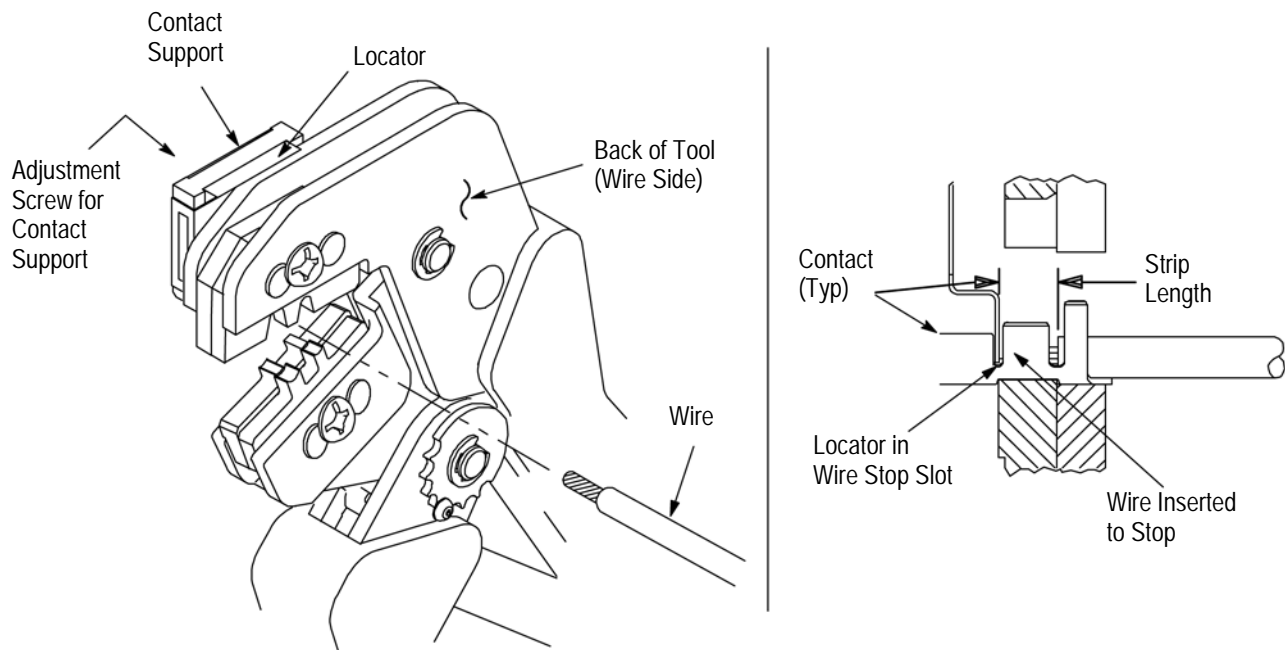

Figure 3
4. CONTACT SUPPORT ADJUSTMENT (Figure 3)
Refer to the table in Figure 1 and select wire of the specified size and insulation diameter. Strip the wire to the length indicated in Figure 1, taking care not to nick or cut wire strands. Select an applicable contact and identify the appropriate crimp section according to the wire size markings on the tool. Refer to Figure 3 and proceed as follows:
3. Position the contact so that the mating end of the contact is on the locator side of the tool, and so that the open "U" of the wire and insulation barrels face the top of the tool. Place the contact up into the nest so that the movable locator drops into the slot in the contact. Refer to Figure 3. Butt the front end of the wire barrel against the movable locator.
5. Insert stripped wire into contact insulation and wire barrels until it is butted against the wire stop, as shown in Figure 3.
NOTE *The crimped contact may stick in the crimping area, but the contact can be easily removed by pushing downward on the top of the locator (see Figure 3).*